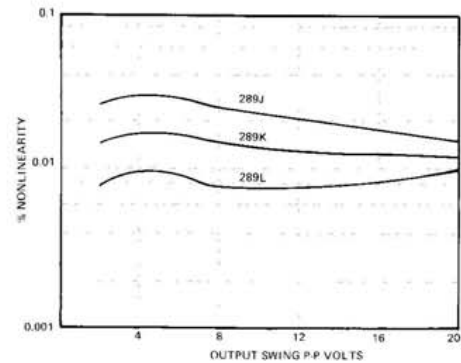
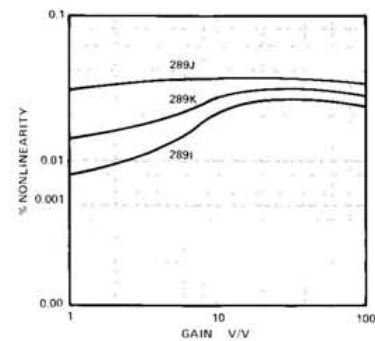

Figure 9. Typical Gain Nonlinearity vs. Output Swing
Figure 10. Typical Gain Nonlinearity vs. Gain
**Gain Nonlinearity:** Linearity error is defined as the deviation of the output voltage from the best straight line and is specified as a % peak-to-peak output voltage span; e.g., nonlinearity of model 289J operating at an output span of 10V pk-pk ( $\pm 5V$ ) is  $\pm 0.05\%$  or  $\pm 5mV$ . Figure 9 illustrates gain nonlinearity for any output span to 20V pk-pk ( $\pm 10V$ ). Figure 10 shows the effect of gain vs. gain nonlinearity.